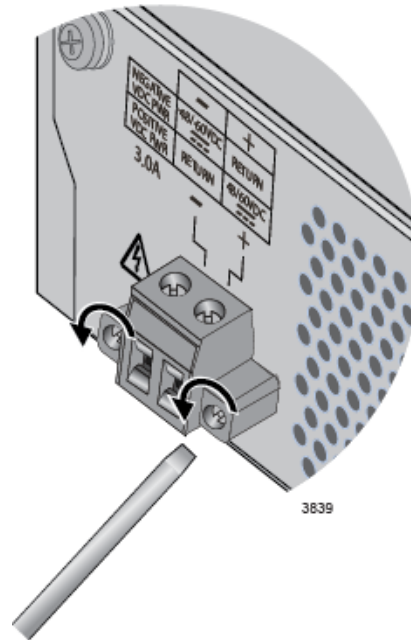

Figure 27. Loosening the Two Captive Screws on the DC Connector
1. Use a 3mm flat-head screwdriver to loosen the two captive screws that secure the DC connector to the chassis. Refer to Figure 27.